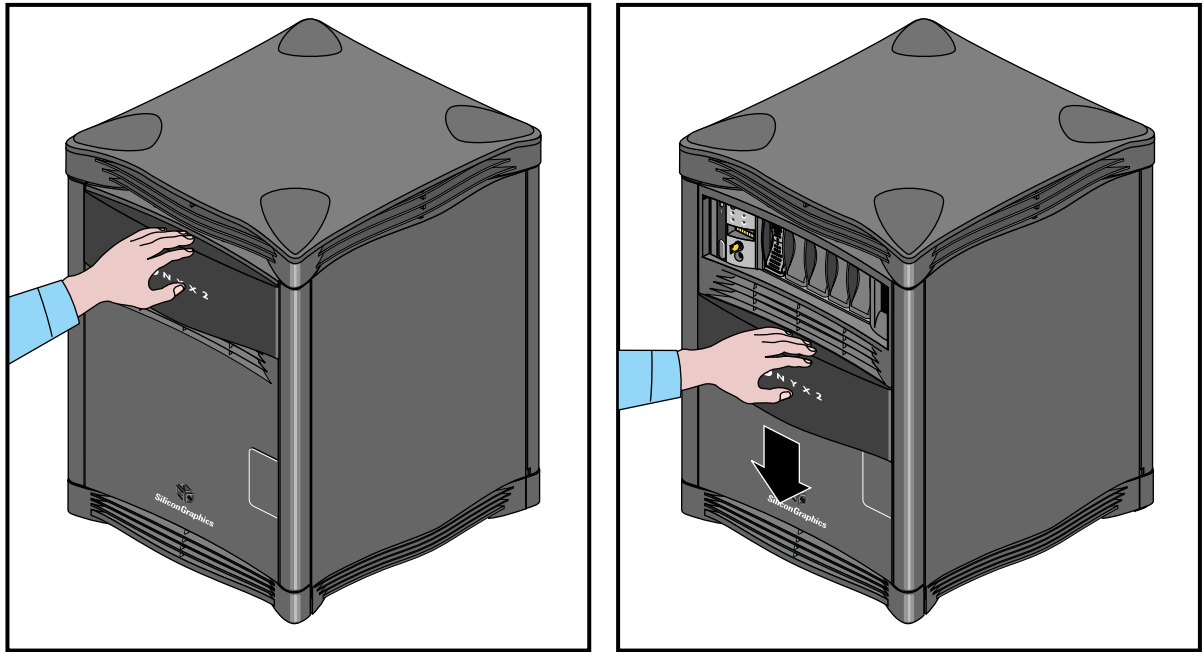

Figure 3-1 Opening and Closing the Sliding Front Panel
2. Slide it downward until it locks in position. You should have clear access to the drives and the MSC interface panel. See Figure 3-1 for an example.